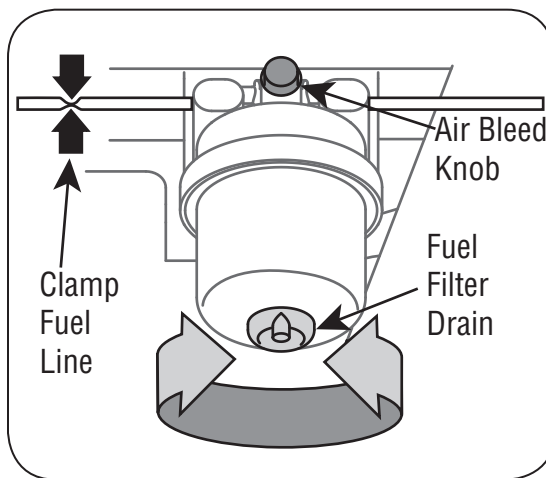

Figure 12
2. Place a suitable container beneath the filter drain valve. See Figure 12.
3. Turn the filter drain counterclockwise to open. Allow the water at the bottom of the filter to drain until only pure diesel fuel drains from the valve. See Figure 12.
5. Slowly turn the air bleed knob counterclockwise until fuel begins to seep out around the bleed knob. Turn air bleed knob clockwise to close. Refer to Figure 12.
2. Clamp the fuel line just to the rear of the fuel filter. See Figure 12.
9. Slowly turn the air bleed knob counterclockwise until fuel begins to seep out around the bleed knob. Turn the air bleed knob clockwise to close. Refer to Figure 12.